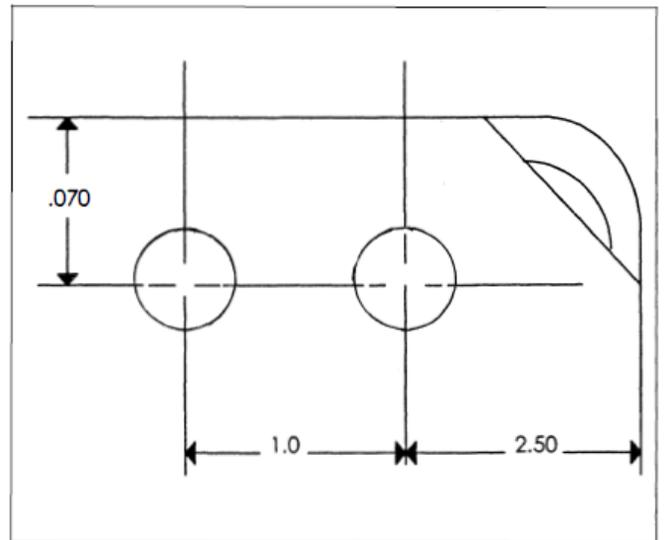

Fig. 3-6. Terminal Block Mounting Hole Pattern
Drill and tap two (2) holes for the 5/16 - 18 nuts. See Fig. 3-6 for hole locations.